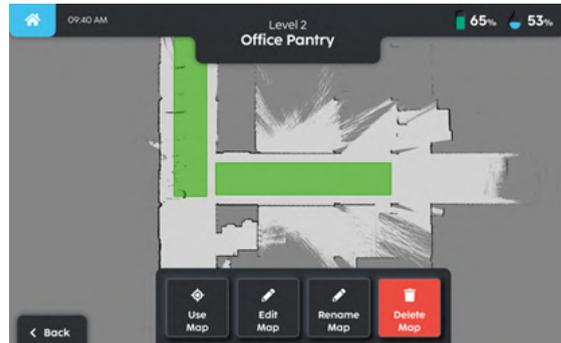

FIGURE 5-2
2. Select "Delete Map" (**Fig. 5-2**).